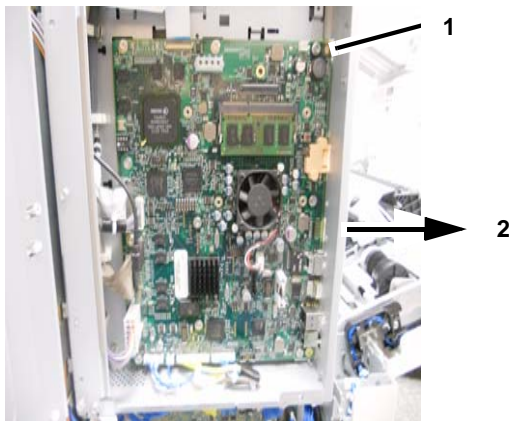

Figure 3 Removing the SBC IF Panel
5. Remove the SBC IF Panel. (Figure 3)